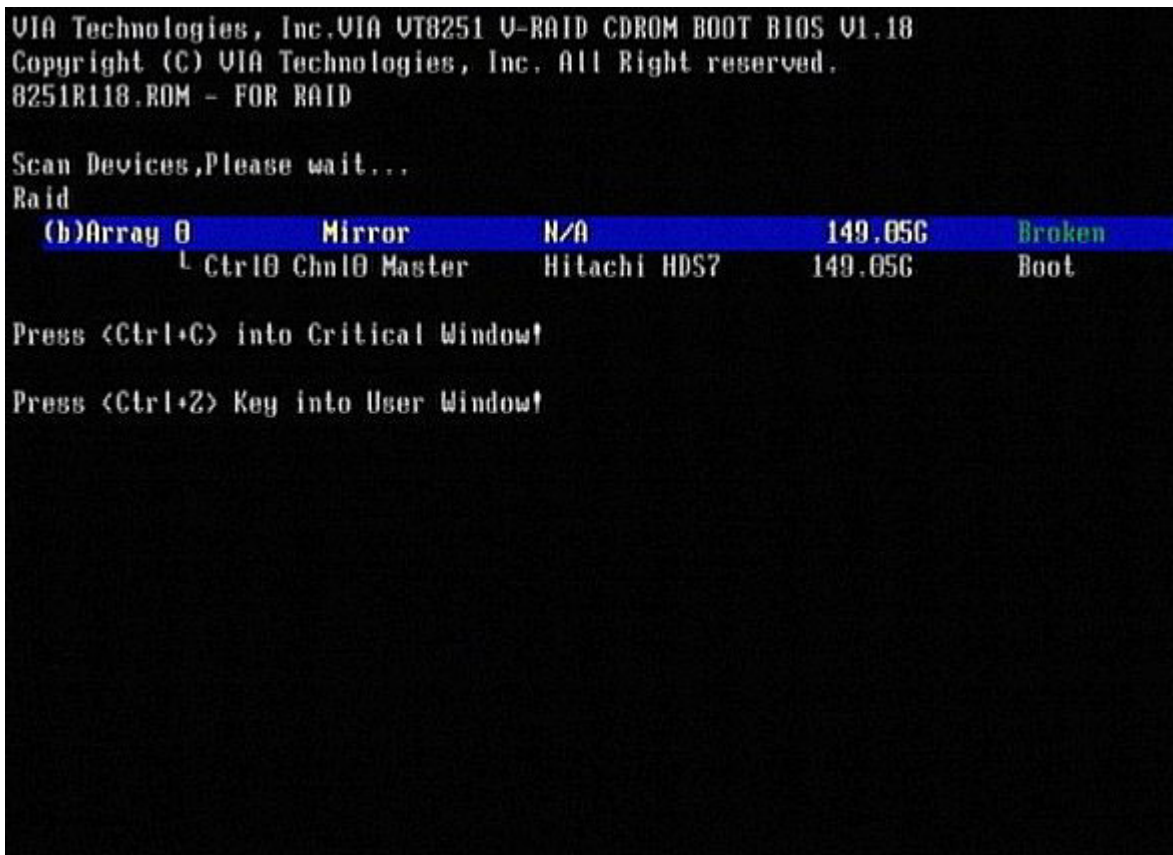

Figure 46. Boot up warning
2. During the reboot, Figure 46 displays information about the failing disk. Make note of which drive is the failing disk. Failing drives are indicated with a Broken status.